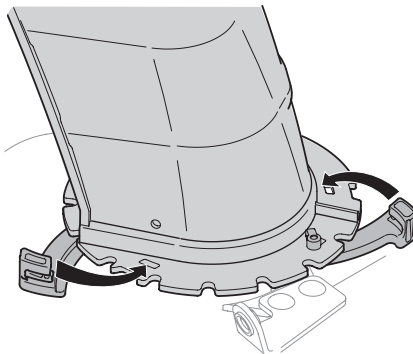

Figure 2-16
2. Close flange keepers to secure chute assembly to chute base. Flange keepers will click into place when properly secure. See Figure 2-16.